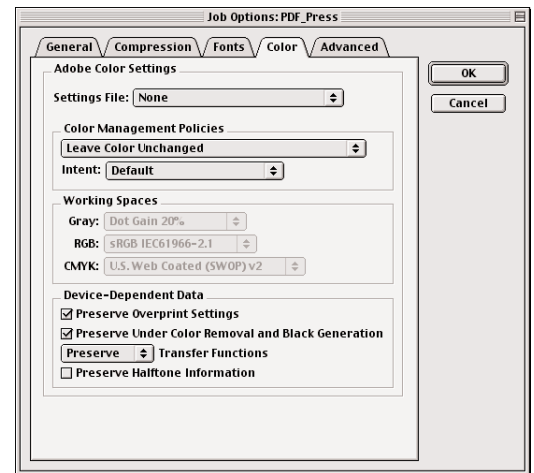

Figure 1-12
**Color Tab:** (Figure 1-12)**Conversion:**